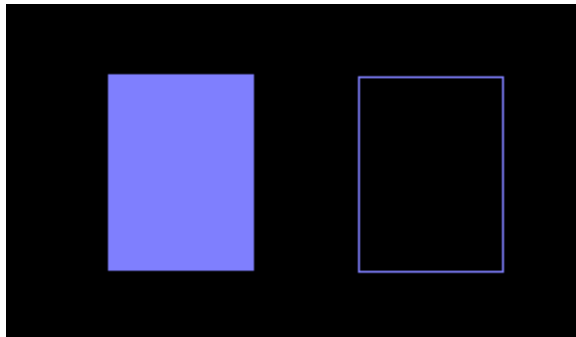

Figure 28
6. Select one sketched pad on the layer – See Figure 28: